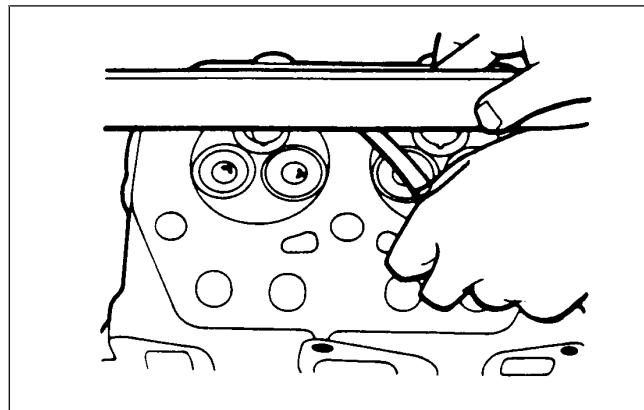

Figure 63
8. Use a straight edge and feeler gauge to check the flatness of the cylinder head lower surface (Fig. 63). Be sure to check the surface variation crosswise, lengthwise, and diagonally. If the variation in surface flatness exceeds (0.05 mm) 0.002 in., the cylinder head or cylinder block must be replaced or resurfaced.